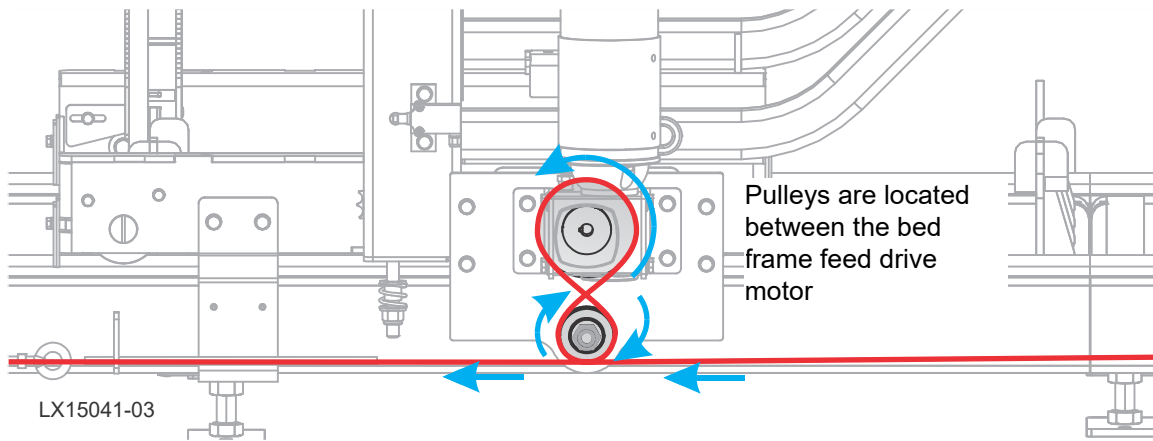

FIG. 3-17
4. Thread the feed rope through the pulleys of the feed drive assembly in a figure 8 pattern as shown in Figure 3-17.
See Figure 3-17.